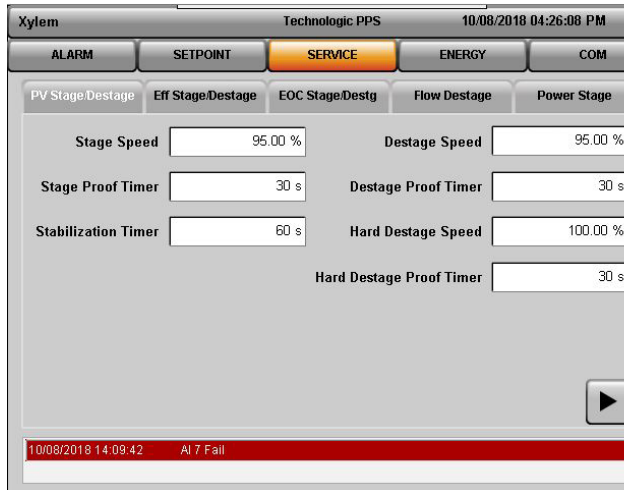

Figure 5.4.20-PV Stage/Destage
5.4.4.1.1 PV Stage/Destage controls staging and destaging of pumps based on Speed and Process Variable (Pressure). See Figure 5.4.20.